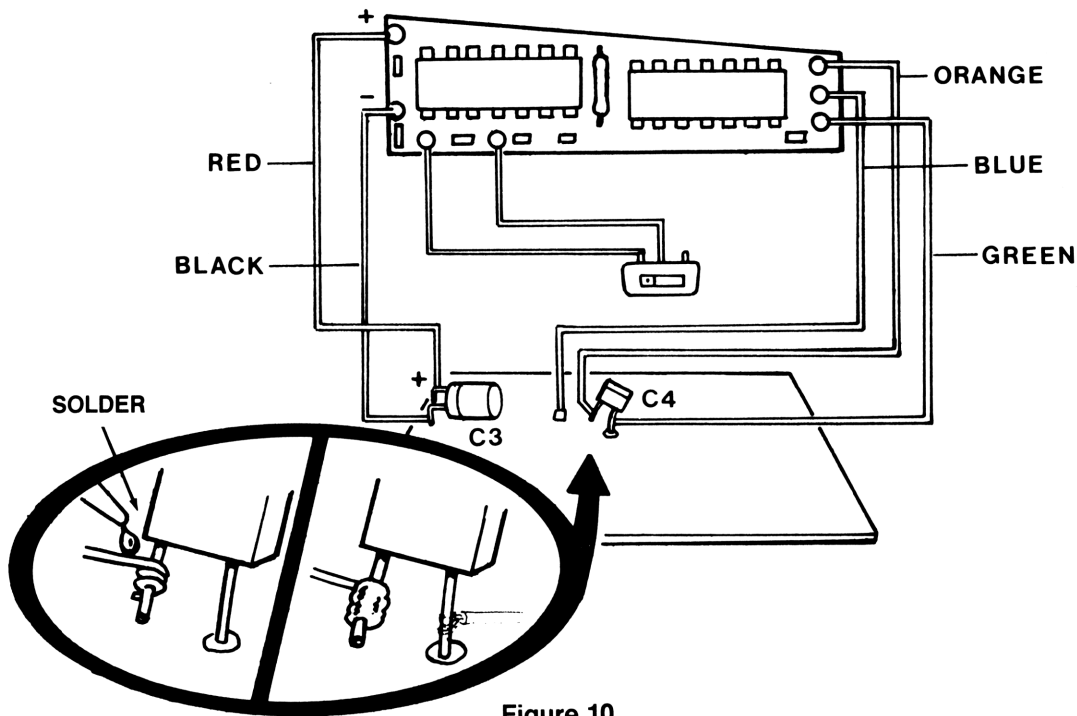

Figure 10
29.	Refer now to figure 10. . Connect and solder the ORANGE lead wire from [] the HYPER to the free lead of component C4 as shown.
30.	Again refering to figure 10., solder the BLUE lead wire from the HYPER to [] the free pad on the CPU/logic board.
31.	Again in reference to figure 10., connect and solder the GREEN lead wire [] from the HYPER board to the previously soldered lead of C4.